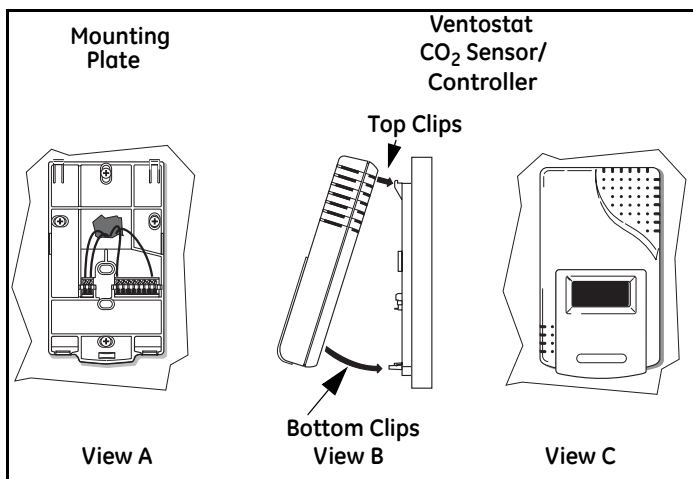

Figure 1: Ventostat® CO₂ Controller - Mounting
2. Use the mounting plate as a template to mark the mounting holes. See Figure 1, View A below.
4. Mount the controller on the base by aligning the top clips and then securing to the bottom clips, as shown in Figure 1, View B above. A “snap” sound will indicate that the sensor is secure. The sensor will now have power. A 2 minute warm-up will take place. After 2 minutes, the sensor will stabilize and display the “Normal Mode” (current CO₂ readings).